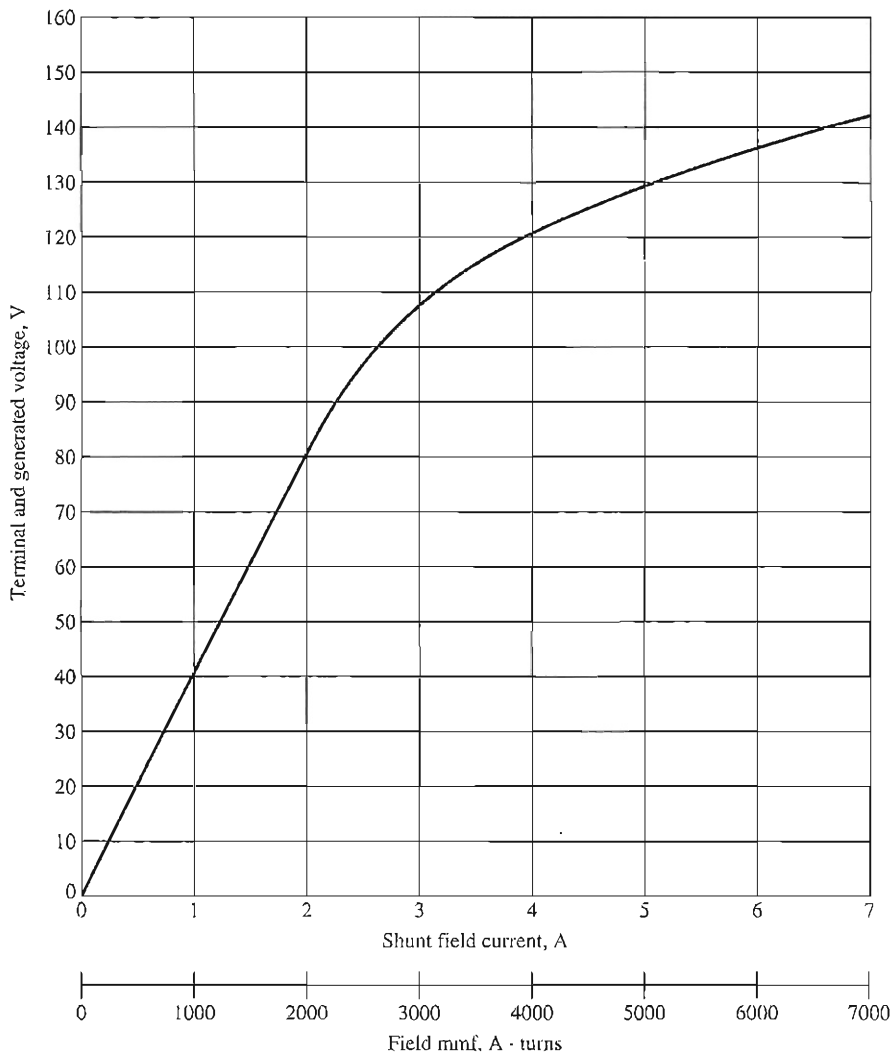
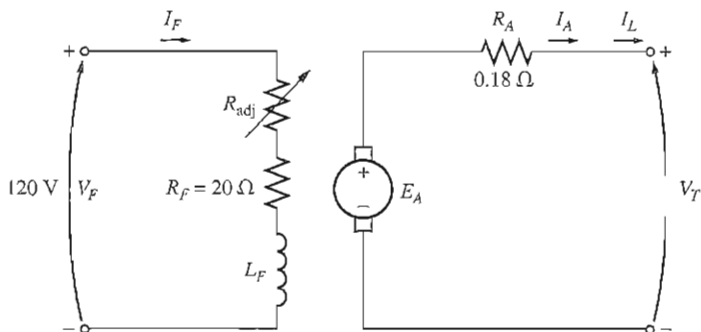
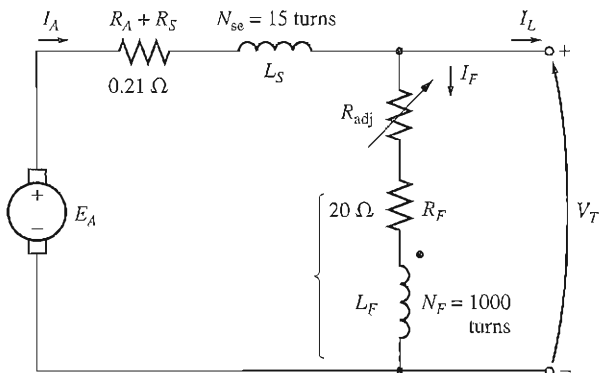

FIGURE P8-7
FIGURE P8-8
FIGURE P8-10
- 8-22. The magnetization curve for a separately excited dc generator is shown in Figure P8-7. The generator is rated at 6 kW, 120 V, 50 A, and 1800 r/min and is shown in Figure P8-8. Its field circuit is rated at 5 A. The following data are known about the machine:
The machine has the magnetization curve shown in Figure P8-7. Its equivalent circuit is shown in Figure P8-10. Answer the following questions about this machine, assuming no armature reaction.